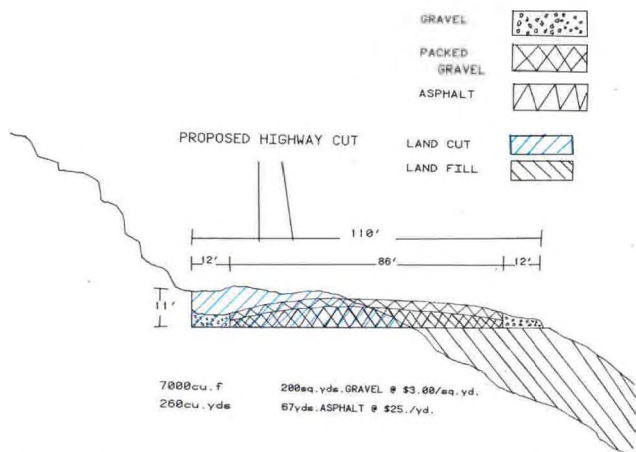

Fig. 3. A typical civil engineering application for the 4662 is shown here. Plot courtesy of RLS Associates.
With the oscilloscope operating in the dual-trace mode, the time interval between a signal on Channel 1 and one on Channel 2 can be measured by setting the intensified zones to the desired point on each trace (see Fig. 3). Since both zones can be positioned anywhere on-screen, there is no need to assure the leading signal appears on Channel 1 as in some other instruments.
Fig. 3. The time interval between signals on Channel 1 and Channel 2 can be measured as shown here. The reference zone is always displayed on Channel 1 and the  $\Delta$  Time zone on Channel 2. Either zone may be positioned anywhere on-screen to make the measurement.
**Fig. 3. Scheduler flow chart.** Here's how the SPS Scheduler keeps track of its priorities. After each BASIC statement is executed, the Scheduler checks to see if the task is complete. If not, it then checks to see if a task with a higher priority task is waiting, the Scheduler stacks the Current Job, and begins executing the new task. The Current Job is always the task with the highest priority. When the Current Job is completed, the Scheduler looks to see if any tasks have been stacked, and compares that task's priority with the priority of the task in Queue. The task with the higher priority becomes the Current Job. If either the Stack or the Queue is empty, the idle packets are compared. The idle packet causes BASIC to loop, waiting for another task to become ready for execution.
Figure 3 is a flow chart of the Scheduler process. Note that after the completion of every BASIC statement, the software checks to see if there is a task pending with a higher priority than the Current Job. Thus, the maximum time delay between interrupt and program response is the time it takes to execute a single BASIC statement. Even faster response time is possible at the driver level. Here, the time delay between interrupt and computer response is only a few microseconds. Customized instrument drivers can be programmed to handle interrupts in any manner desired.